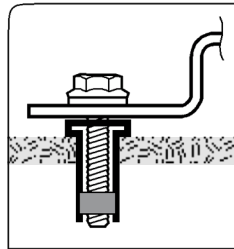

Fig. 7.5. The Z Bracket is placed against the flange of the Well-Nut and is secured by the bolt engaging the captive brass nut.
10. Fasten the mounting brackets to the roof surface by inserting the ¼ x 1¼" serrated flange bolt into the Well-Nut (Fig. 7.5). Tighten using a 3/8" wrench to a recommended torque of 15 lbs. When the serrated flange bolt is screwed into the Well-Nut, the material surrounding the well nut bulges slightly securing the structure to the roof (Fig. 7.6 & 7.8).